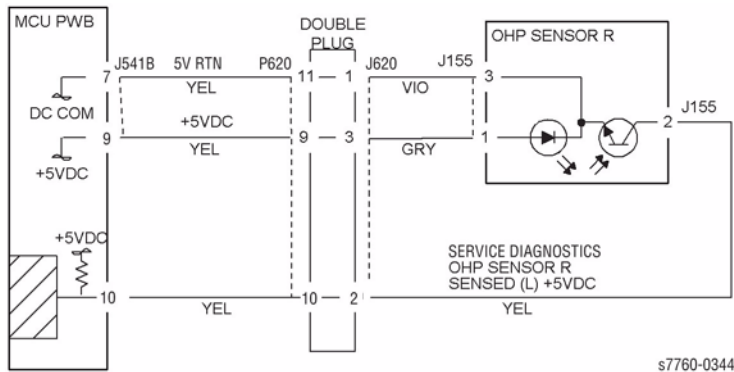

Figure 1 007-960 OHP Sensor R
- Ensure that the connectors shown in the circuit diagram (Figure 1) are securely connected and that the wires are not damaged.